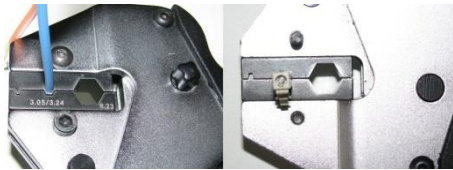

Figure 14
- 4.5. Install the LC-crimping dies into the crimping tool. Push the crimp sleeve on as far as possible and crimp using the crimp tool with SW 3.05/3.24 hex size. Hold the end side of the crimp sleeve in to direction of cable flush with the labelled edge of the crimping pliers (figure 14). Cut back protruding Kevlar members with the Kevlar scissors.